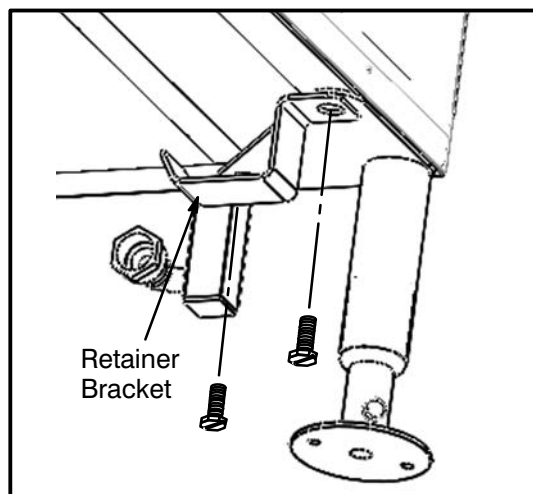

Figure 5
7. Repeat the above steps for the right rear leg. **Install the retainer bracket before securing the right rear leg.** Align the holes in the retainer bracket to the holes in the right leg plate. See Figure 5.